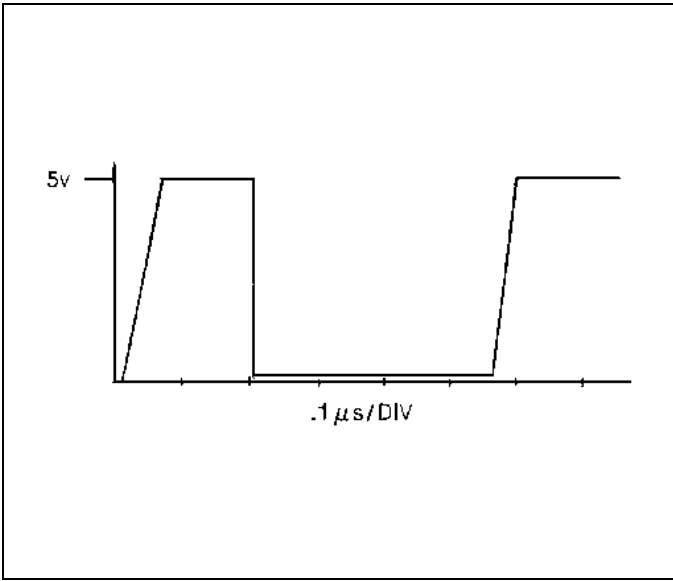

Figure 8 - Microprocessor (U77, Pin 50)
- 3. Check for oscillator activity by examining the ALE clock on U77, Pin 50 (see Figure 8). If not present, examine the system clock on U77, Pin 30 and 40 (at 11.059 MHz). The presence of the system clock but no ALE may indicate a bad U77. If the system clock is not present, Y1 and related components may be suspected.